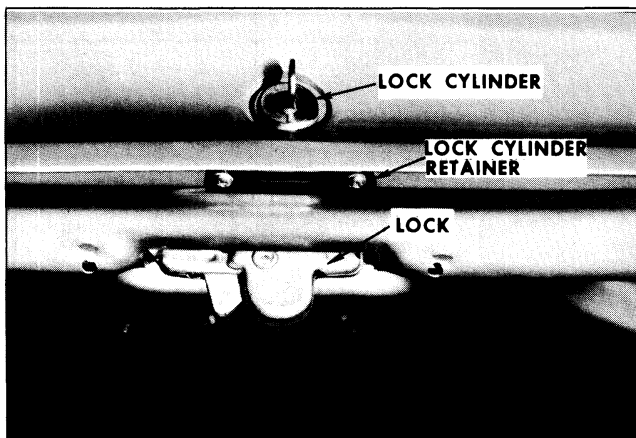

Fig. 14-12 Lid Lock Cylinder Retainer
1. Open rear compartment lid and remove lock cylinder retainer attaching screws (Fig. 14-12).